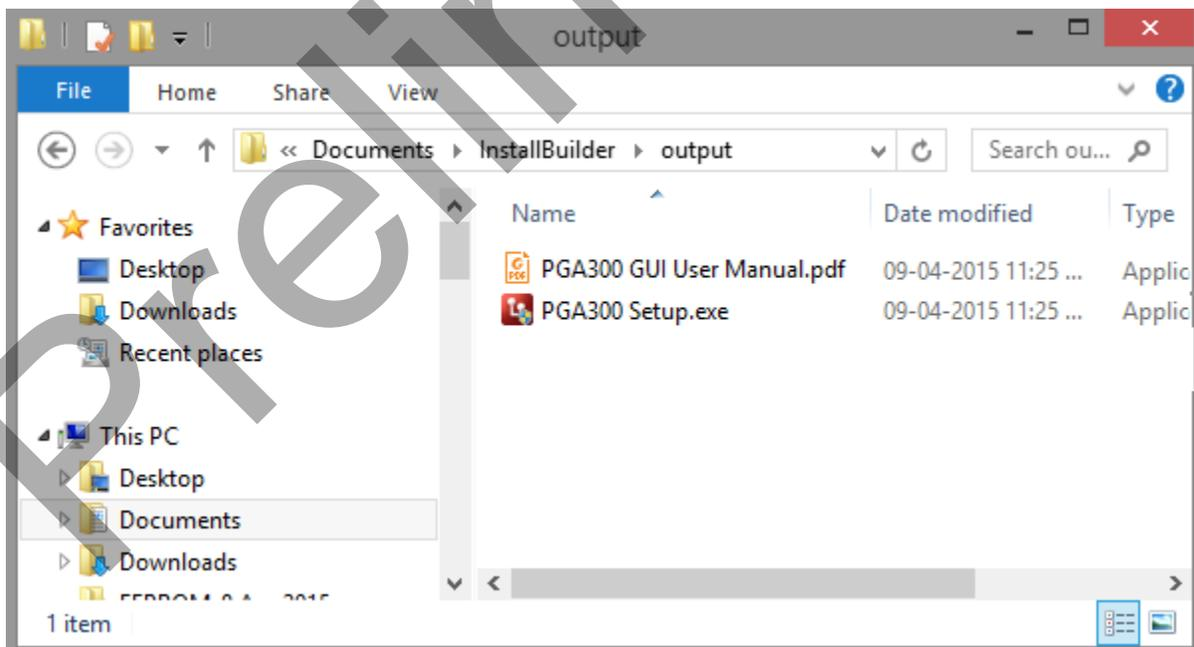

Fig 1: Setup.exe from Volume folder
1. Double click on the **Setup.exe** from the Volume folder as shown in Fig.1.